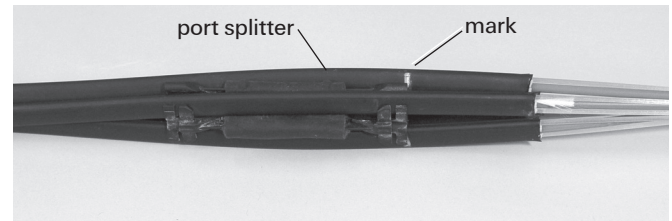

Figure 6
3. Align the end of the port splitter with the 2.25" mark. (Figure 6)
4. If required, insert other cable(s) in any slot of the port splitter. (Figure 6) Align the sheath ring cuts of all cables.